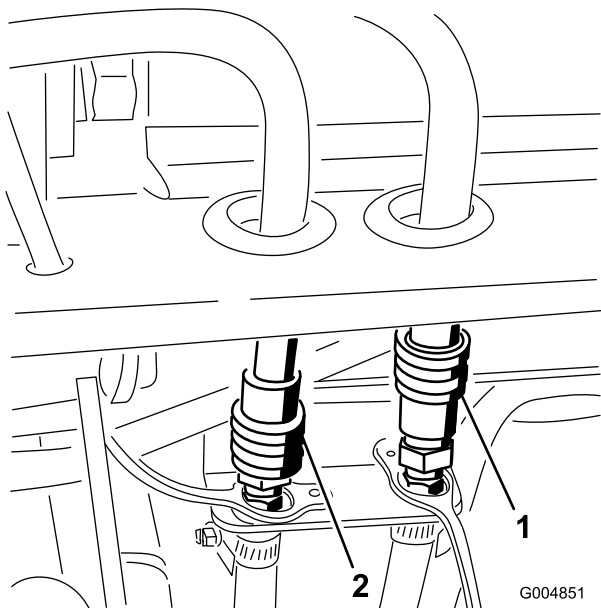

Figure 126
41. Connect the cab pressure and return hoses to the quick couplers on the rear frame mount (Figure 126).